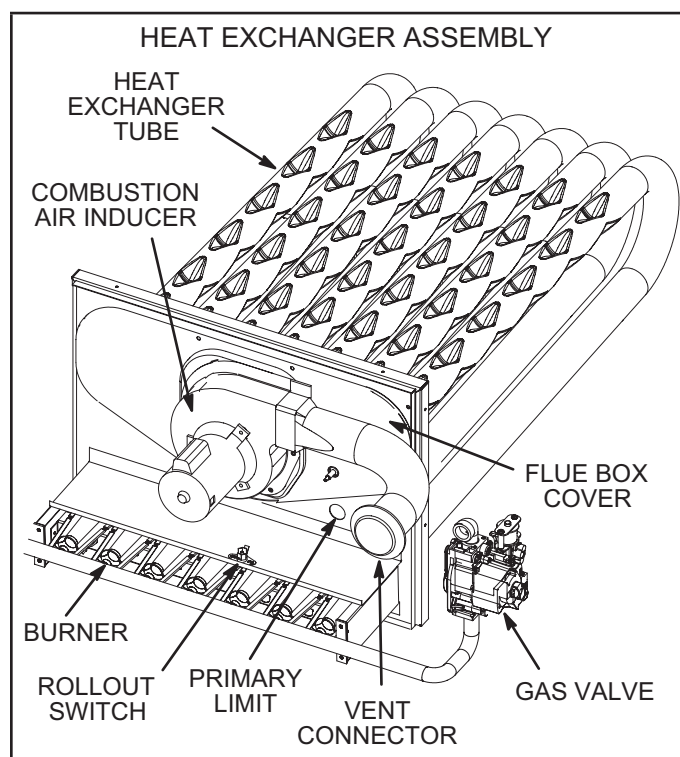

FIGURE 32
Limit controls are factory-set and are not adjustable. The primary limit is located to the right of the combustion air inducer. See FIGURE 32.
- 4 - Remove and retain screws securing combustion air inducer to flue box. Remove vent connector. See FIGURE 32.